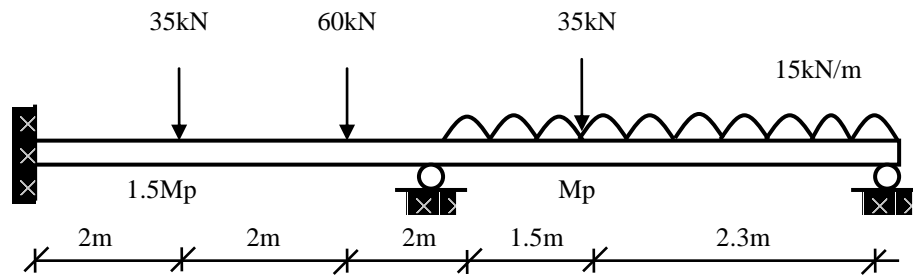

Figure 2.0
2. A continuous of beam ABC carries working loads as shown in Fig. 2.0. Assuming a load factor 2.0, design suitable section for span AB and BC. Shape factor is 1.12 and yield stress of steel is 250 Mpa.